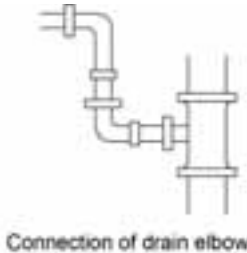

Fig. 4.25
- NO.2: Attach the drain elbow as shown in Fig. 4.25.